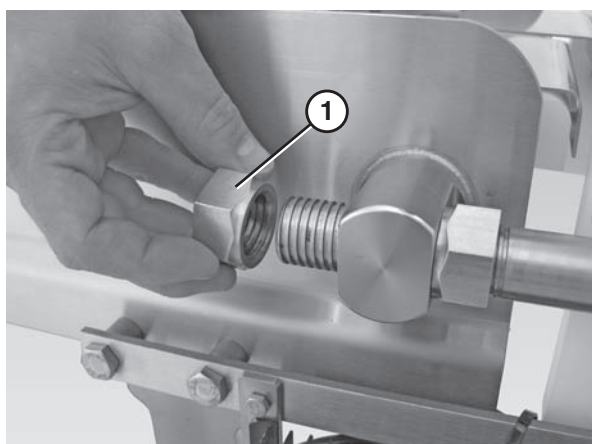

Figure 83
3. Remove the back nuts (**Figure 83, item 1**) on both discharge nose bar shafts.